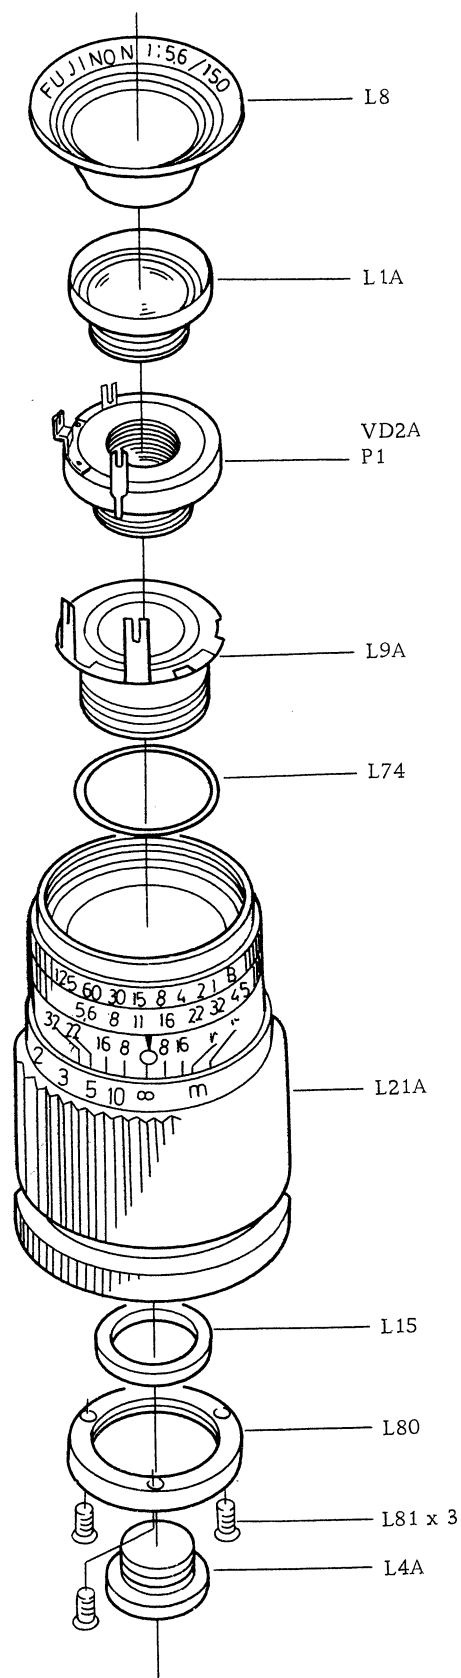

Fig. 1
B. Remove the front lens group (L1A) with the Tool (L1-TA1) and rear lens group (L4A) with Tool (L4-TA1). Fig. 1
D. Remove the shutter fastening ring (L15) with the Tool (L11-TA1), and remove the shutter from the lens barrel carefully so that the shutter speed lever (L19) is not damaged. Fig. 1
A. Remove the ring installation screws (L81, 3 each), and remove the ring (L80), adjust washer (L74), and shutter installation seat (L6A) from the lens barrel. Fig. 1